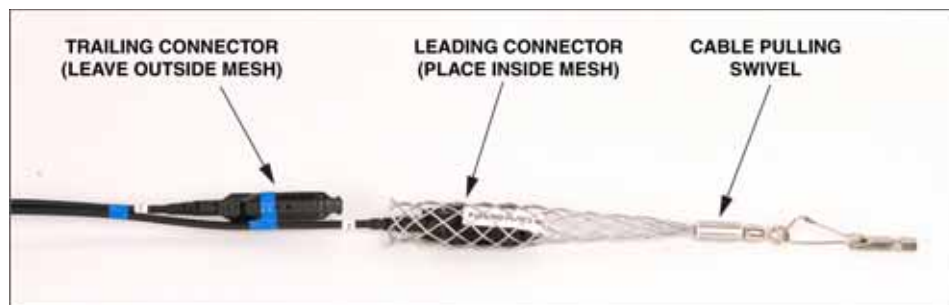

Figure 59. Insert Microcable Lead Connector into Pulling Eye
2. Insert the leading cable connector into a cable pulling swivel such as the one shown in Figure 59.